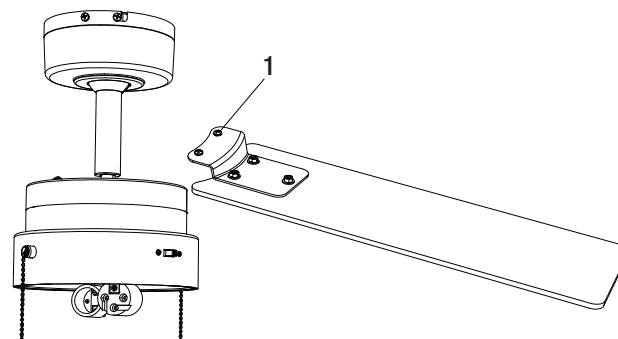

Figure 11
- Position the blade holder (D) above the motor so the two pre-installed screws (1) on the blade holder fit into the holes on the motor (Figure 11). Tighten the pre-installed blade holder screws (1).